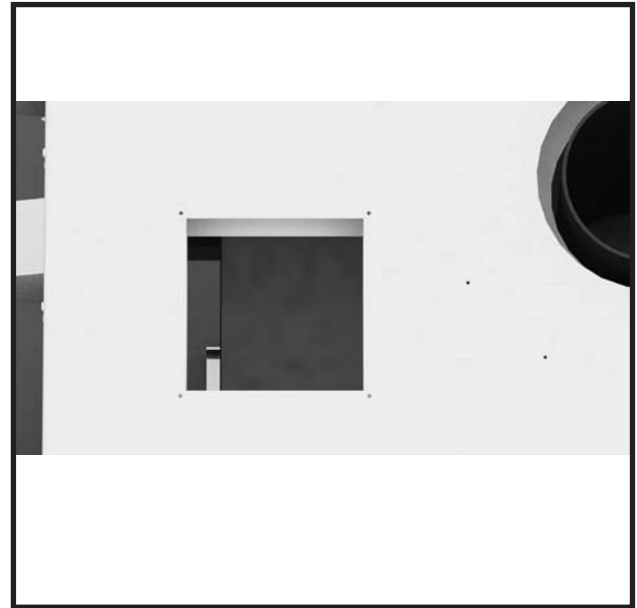

Figure 23: Panel with insulation removed.
2. Cut and remove the insulation directly below the opening, down to the next opening (Figure 23).